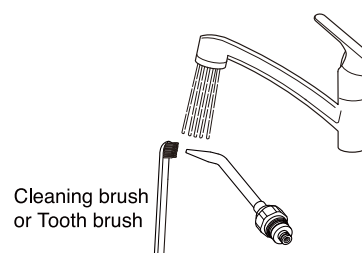

Fig.5-14 Cleaning Belmont 77 Syringe Nozzle
- Wipe off the surface contamination by a cloth while rinsing the surface by running clean warm water at 40 ± 5 degrees. Scrub the tip and joint part of nozzle by a cleaning brush or by a tooth brush with running clean warm water at 40 ± 5 degrees. (Fig.5-14)